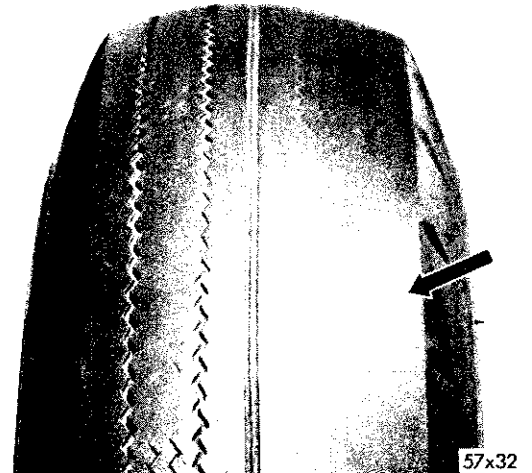

Fig. 13—Camber Wear
c. (Refer to Fig. 13). Excessive positive camber will develop noticeable wear on the outer ribs of tires. Excessive negative camber will result in noticeable wear on the inside ribs.